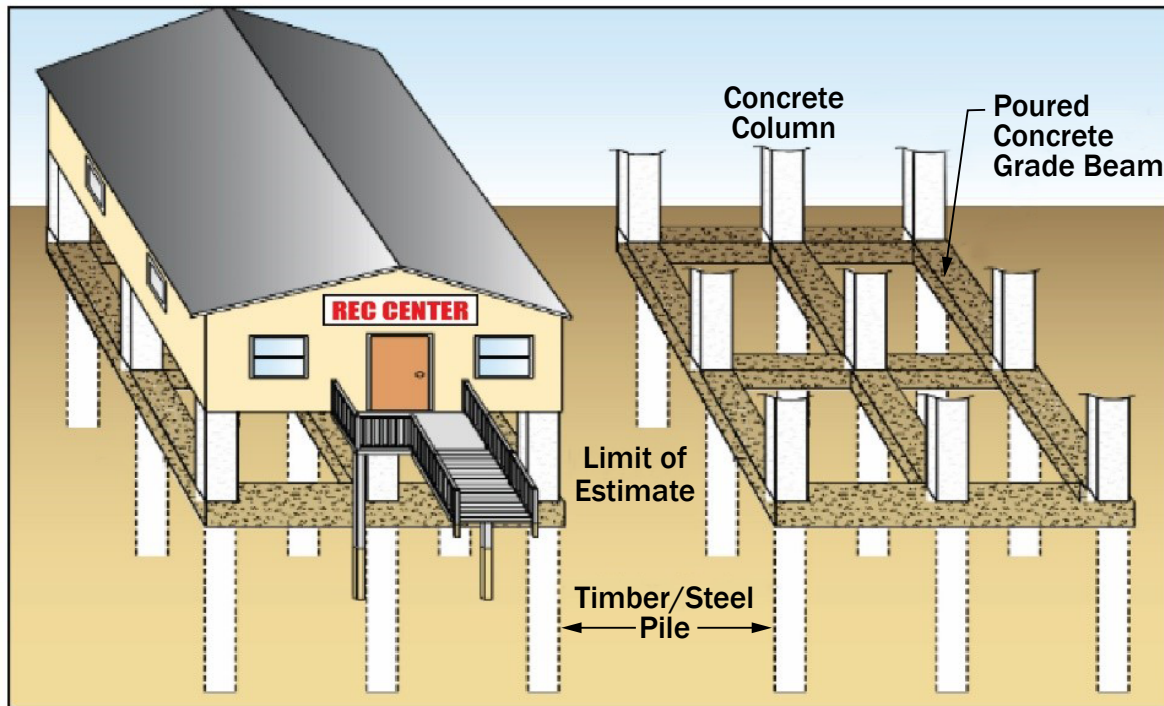

Figure 3.1.3. Elevation of small public building on piles in coastal flood zone.
- Open, deep foundations using driven piles with the lowest horizontal part of the structure at or above the DFE, in accordance with Zone V construction requirements, as shown in Figure 3.1.3, are the only foundations compliant with coastal zone floodplain management and building code regulations.